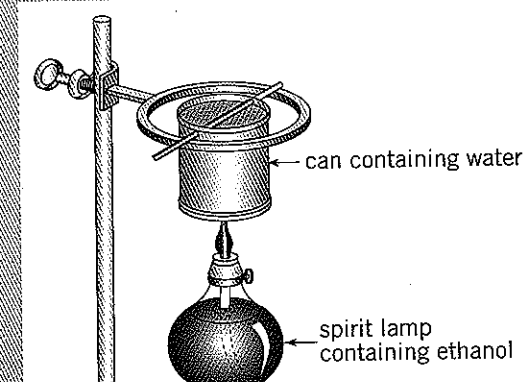

Figure 3.9 Apparatus used to measure the heat of combustion of ethanol
A spirit burner containing ethanol ( $\text{CH}_3\text{CH}_2\text{OH}$ ) was used to heat water in a copper container suspended above the burner, as shown in Figure 3.9.
- A student designed an experiment to compare the heats of combustion of three alkanols: methanol, 1-propanol and 1-butanol. She heated 500 mL of water using the simple calorimeter shown in Figure 3.9 and measured the increase in temperature. In each case 2.00 g of fuel was burned. The temperature increases were: methanol  $18.4^\circ\text{C}$ , 1-propanol  $28.5^\circ\text{C}$  and 1-butanol  $31.5^\circ\text{C}$ .